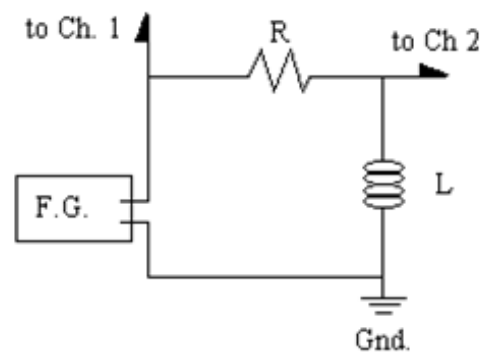

Figure 3
1. Set up the circuit that is shown in Figure 3. Be sure that channel 1 and 2 are hooked up at the proper spots.